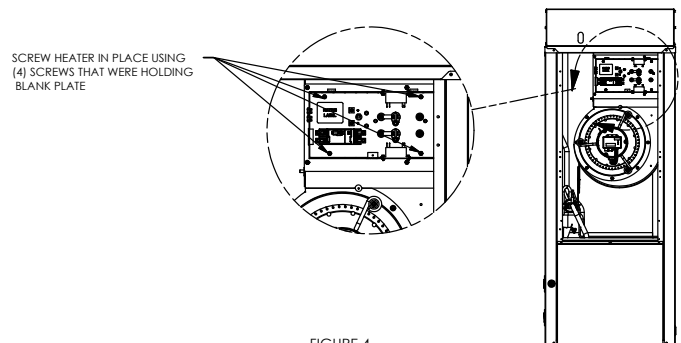

FIGURE 4
7. Insert the heater into the opening of the filler plate that was just installed, and secure the electric heater in place with the (4) screws that were removed from the plenum filler plate. See Figure 4.